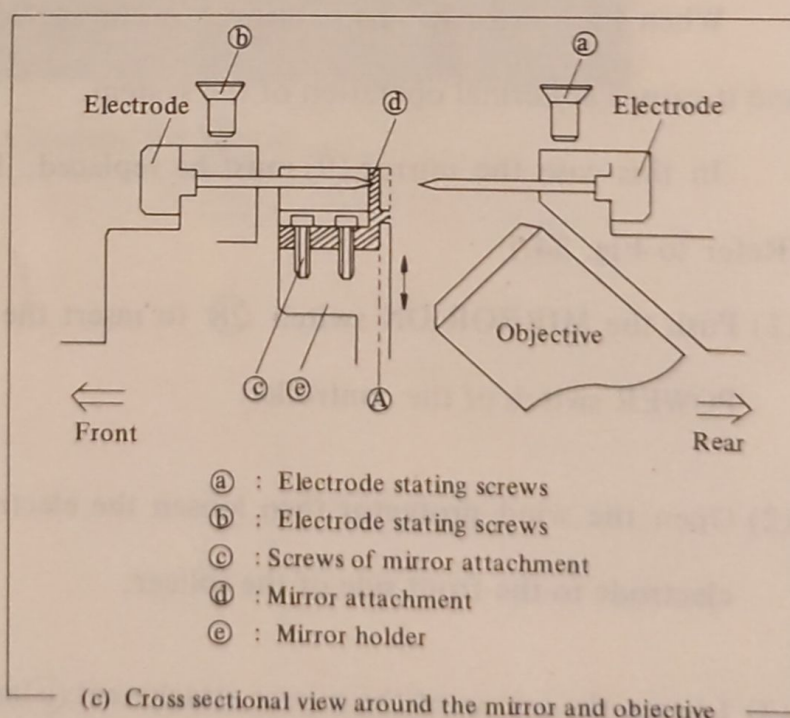

Fig. 34 Replacement of the Mirror
- (1) Push the MIRROR ON switch ②⑧ to insert the mirror ⑨ and be sure to turn OFF the POWER switch of the controller.
- (2) Open the wind protector ④, then loosen electrode stating screws ①a and pull the electrode to rear side of the splicer. (Refer to Fig. 34)
- (4) Push the electrode back to front side of the splicer until the flange of the electrode touches electrode stator as shown in Fig. 34, then tighten the electrode stating screws ①a.
In this case the mirror ⑨ must be replaced. Replacement procedures are following. (Refer to Fig. 34.)
- (2) Open the wind protector then loosen the electrode stating screws ①b and pull out the electrode to the front side of the splicer.
- (3) Loosen the screws of the mirror attachment ①c and take out the mirror attachment ①d.
- (4) Set the spare mirror attachment to the mirror holder (e) and tighten screws (c) while pushing the mirror attachment to touch the (A) surface.
- (5) Insert the electrode until the flange of the electrode touches the electrode stator, then tighten screws (b). Be careful that the needle point does not hit any part of the splicer. It causes deformation of the electrode and results in abnormal discharge.